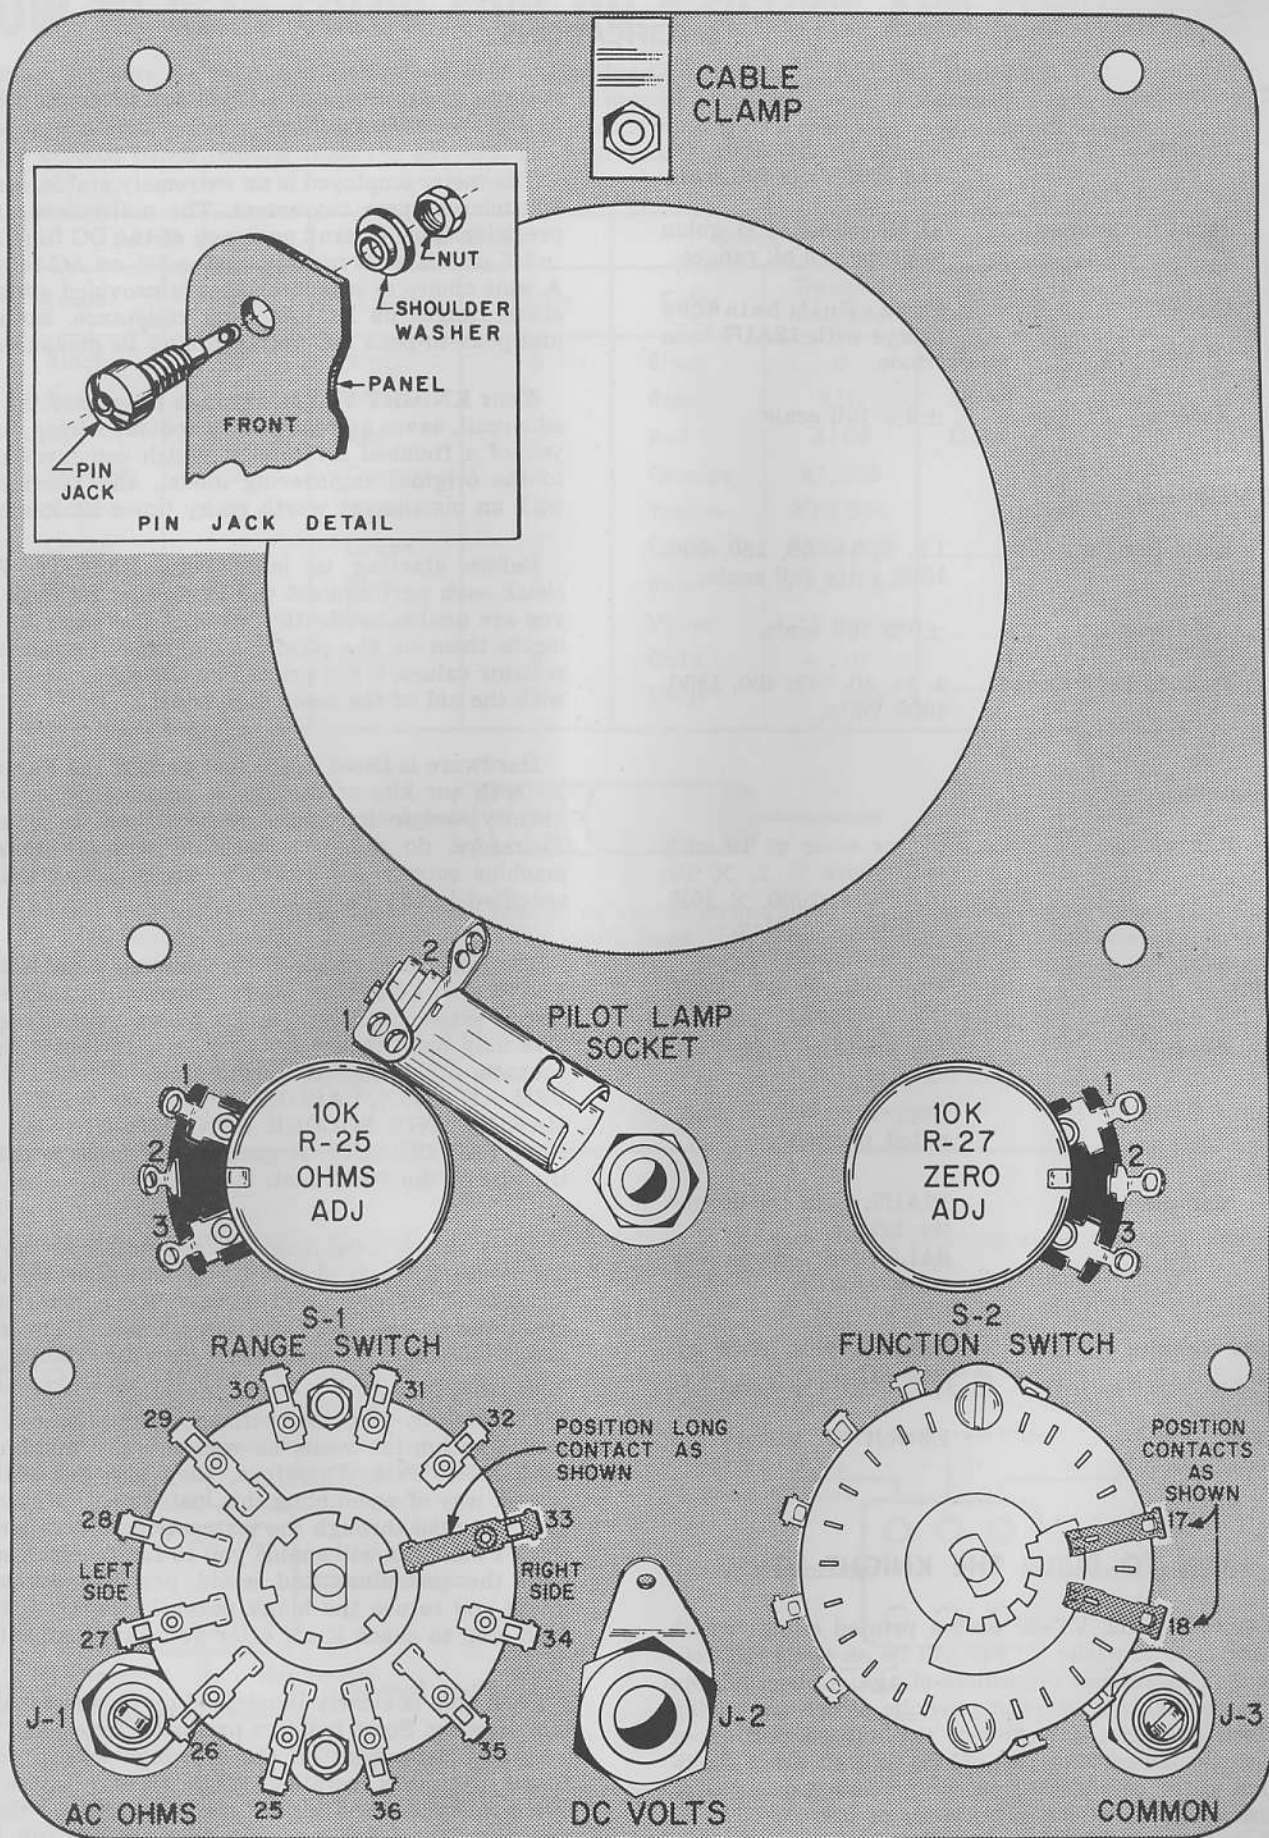

FIGURE 1. MOUNTING THE PARTS ON THE PANEL
SEE FIGURES 1 AND 2
- () Mount the pilot light socket between R-25 and R-27. The bracket must be positioned as shown in Figure 1.
- () Mount J-1, the red pin jack, in the lower left corner of the panel. Use a **shouldered fiber washer** on the **inside of the panel** to insulate the jack from the panel. Now, tighten a nut against the washer. Refer to the pin jack detail in the upper left corner of Figure 1.
- () Mount S-1, the long triple wafer RANGE switch in the hole in the lower left corner of the panel. The long contact on the end wafer must be positioned as shown in Figure 1. The blank space on the wafer near the shaft end must be toward J-1. Use a large nut and a lockwasher on the inside of the panel. Fasten it securely with another large nut. Place a large knob on the shaft. Be sure the line on the knob lines up exactly with the printed dots on the panel. If not, rotate S-1 so the scale on the panel and the line on the knob correspond.